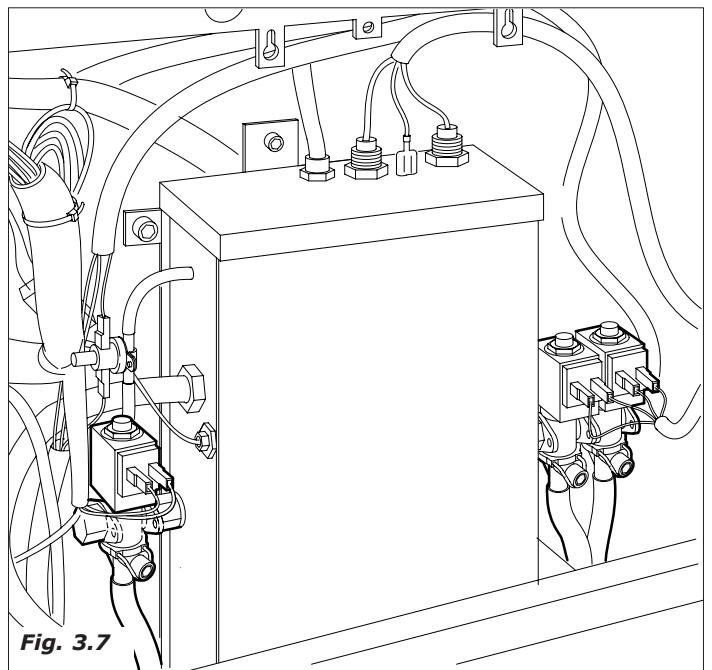
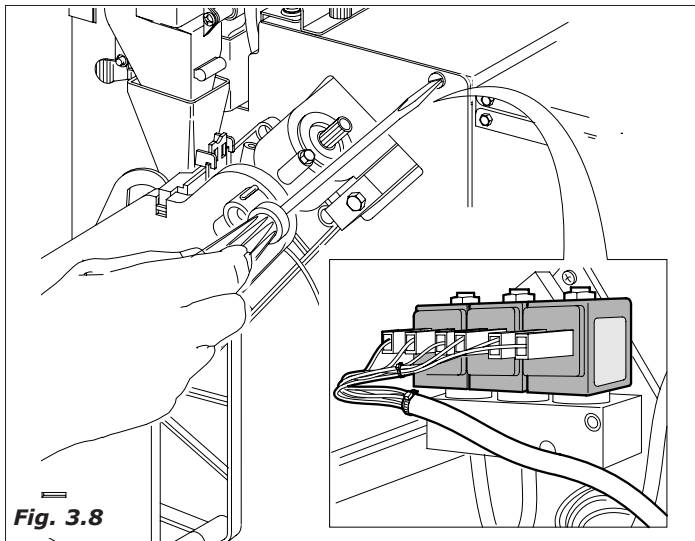

Fig. 3.7
Fig. 3.8
- The electrovalve assembled on the instant boiler (Fig.3.7) or fixed to the instant coffee (Fig.3.8) is activated in order to introduce the set quantity of water into the mixer.